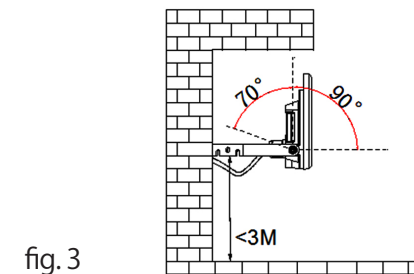

fig. 3
4. Fasten the LED floodlight with the screws (fig.1), washers and tooth washers on the bracket. Align the LED spotlight (fig.3) and tighten the screws (fig.1).